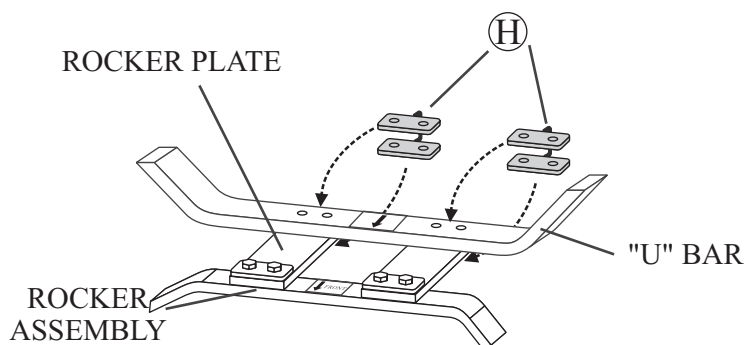

Fig. 4
- 5 **Critical Step: The "U" metal plates must be installed in the proper location. Read this step and carefully examine.** Adjust alignment of the holes of support bar and "U" bar. Insert a "U" metal plate as shown in Fig. 4. Then guide the 5/16"x40 mm bolts through the holes in the "U" metal plate, "U" bar, rocker plate, and bottom of the "U" metal plate. Add a Ø8.0 x 2.3 mm spring washer and a nut to each bolt as shown in Fig. 5. **Hand tighten only.** Repeat the same procedure on the other side.